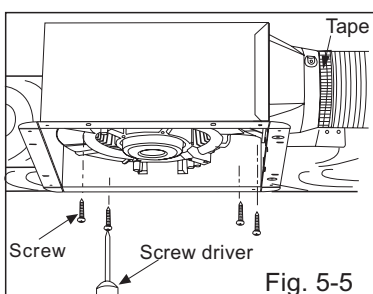

Fig. 5-5
8. Secure the blower by 4 screws as shown in Fig.5-5.